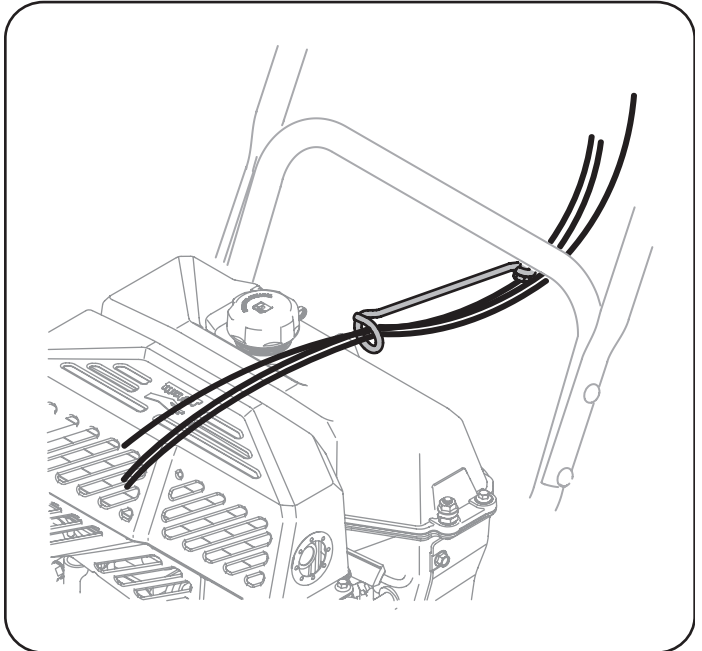

Figure 12
11. Check that all cables are properly routed through the cable guide on the engine. See Figure 12.